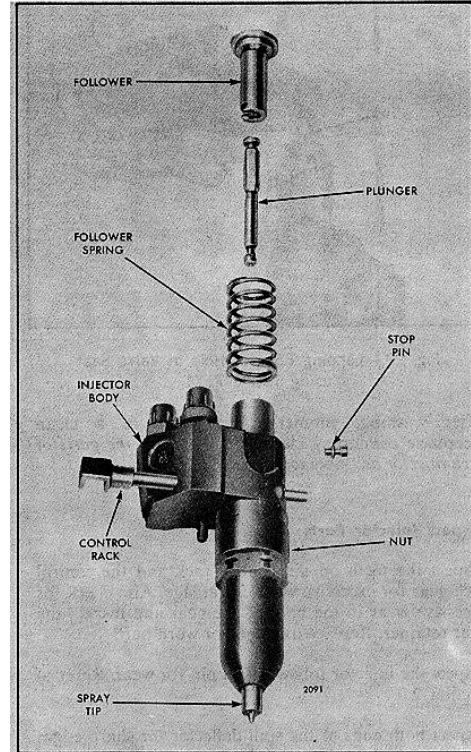

FIG. 32 - Injector Plunger, Follower and Relative Location of Parts
1. Refer to Fig. 32 and slide the head of the plunger into the follower.